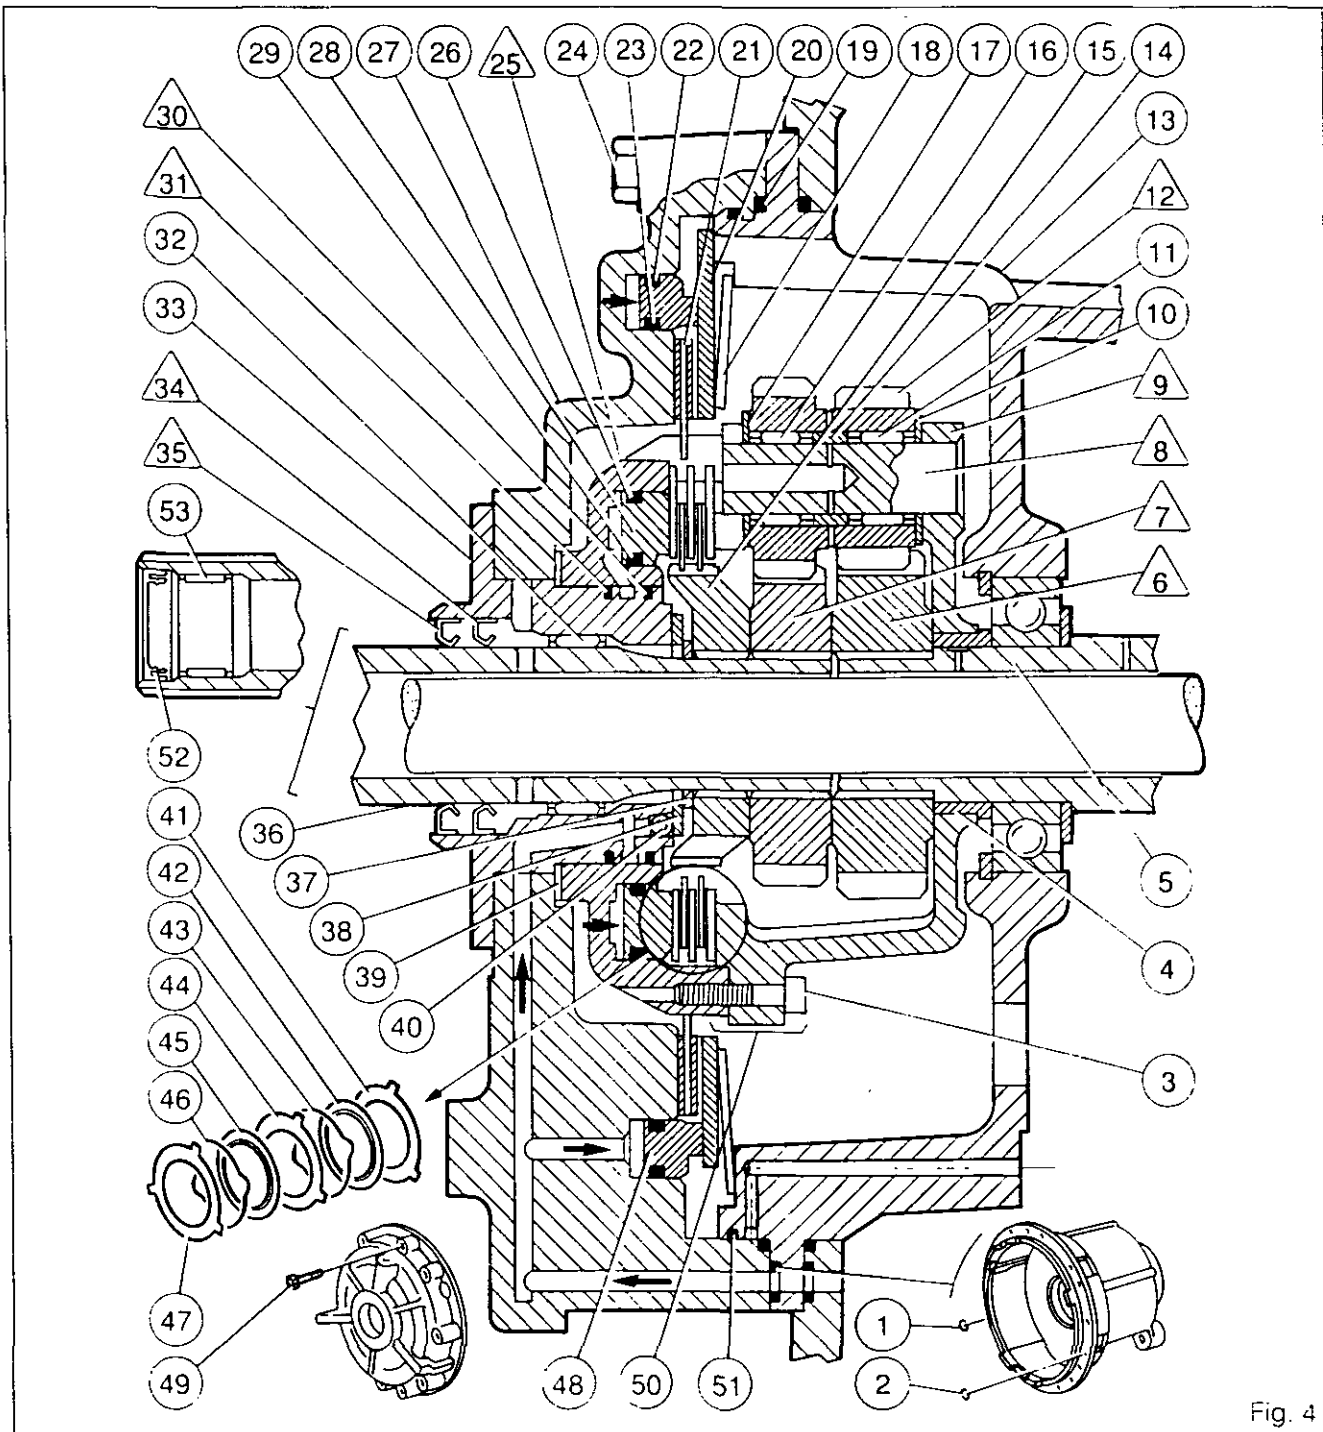

Fig. 4
**Hydraulic operation : direct transmission (Fig.4)**